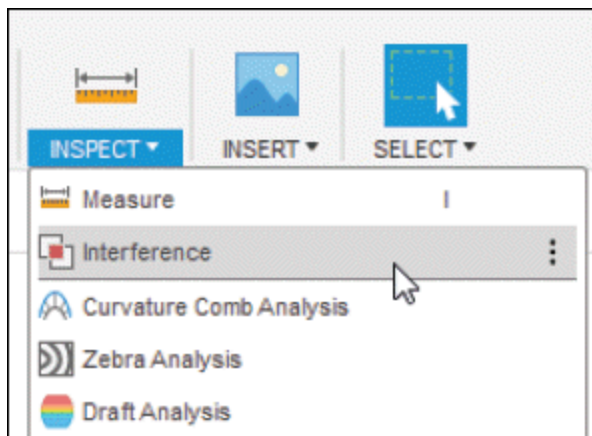
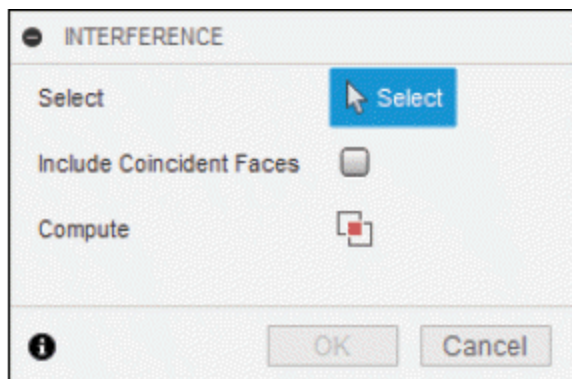

Figure-37. Interference tool
Figure-38. INTERFERENCE dialog box
- Click on the **Interference** tool of **INSPECT** drop-down from **Toolbar**; refer to Figure-37. The **INTERFERENCE** dialog box will be displayed; refer to Figure-38.